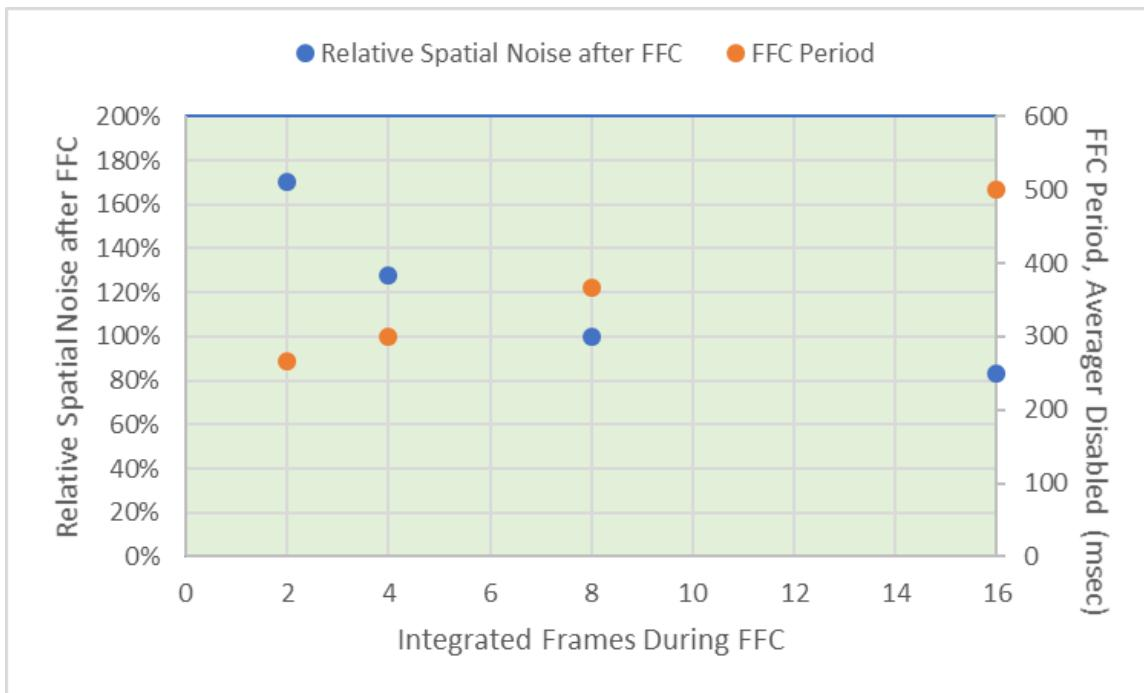

Figure 21: Relative Spatial Noise after FFC vs. Number of Integrated Frames (factory-default = 8)
- **FFC Integration Period:** During each FFC event, the camera automatically integrates n frames of sensor data to generate the resulting correction term. **FFC Integration Period** specifies the value of n , either 2, 4, 8 or 16. Utilizing fewer frames decreases the FFC period (with diminishing returns due to overhead) whereas utilizing more frames provides greater reduction of spatial noise (also with diminishing returns due to 1/f noise). Figure 21 quantifies the benefit. The factory-default value is 8 frames for cameras which include a shutter, 16 frames for shutterless. Note that with averager enabled (i.e., 30Hz output rather than 60Hz output), a value of n frames represents twice as much time as with averager disabled since frame period is twice as long.